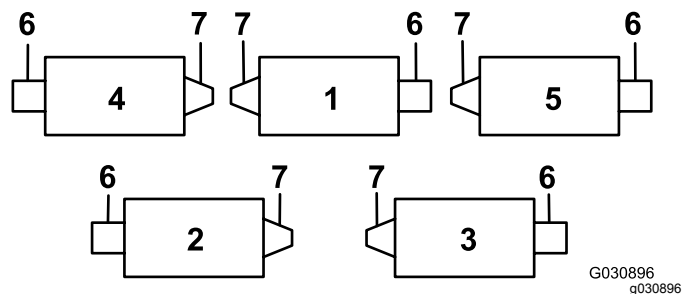
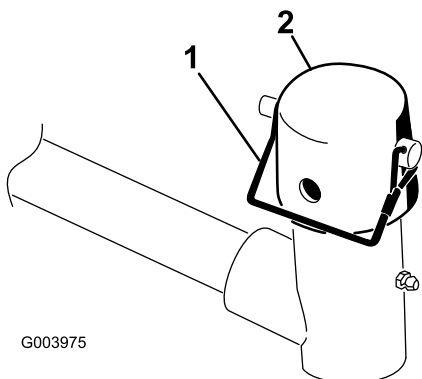

Figure 7
**Figure 9**
**Important:** On cutting unit 4 (left front) and cutting unit 5 (right front), use the rod-bracket mounting nuts to install the hose guides to the front of the cutting-unit tabs (Figure 7 and Figure 8). The hose guides should lean toward the center cutting unit (Figure 8 and Figure 9).